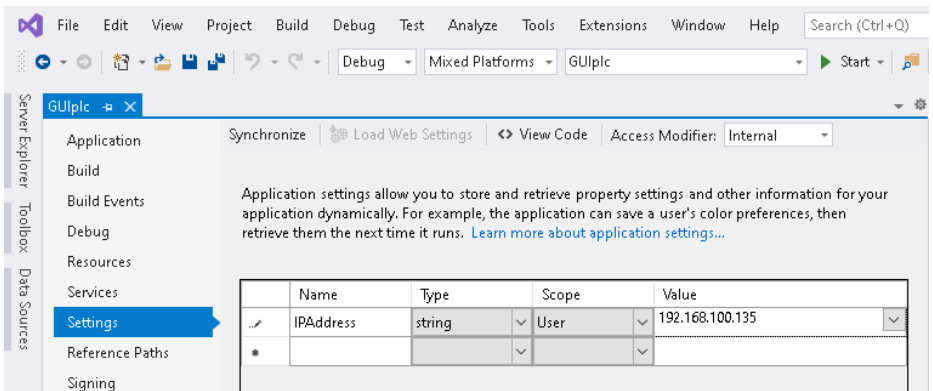

Fig. 6.8 Specifying the IP address
- Open the **GUIplc Properties** and in **Settings** specify the IP address to use (Fig. 6.8).